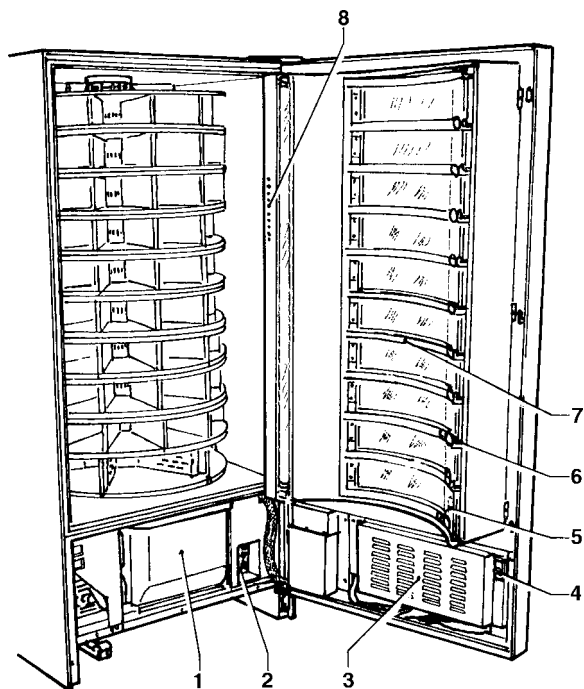

Fig. 4
**Do not use any soaked cloth to clean motors, lighting lamps, loading buttons or the front cover of the power supply unit (see Fig. 4).**